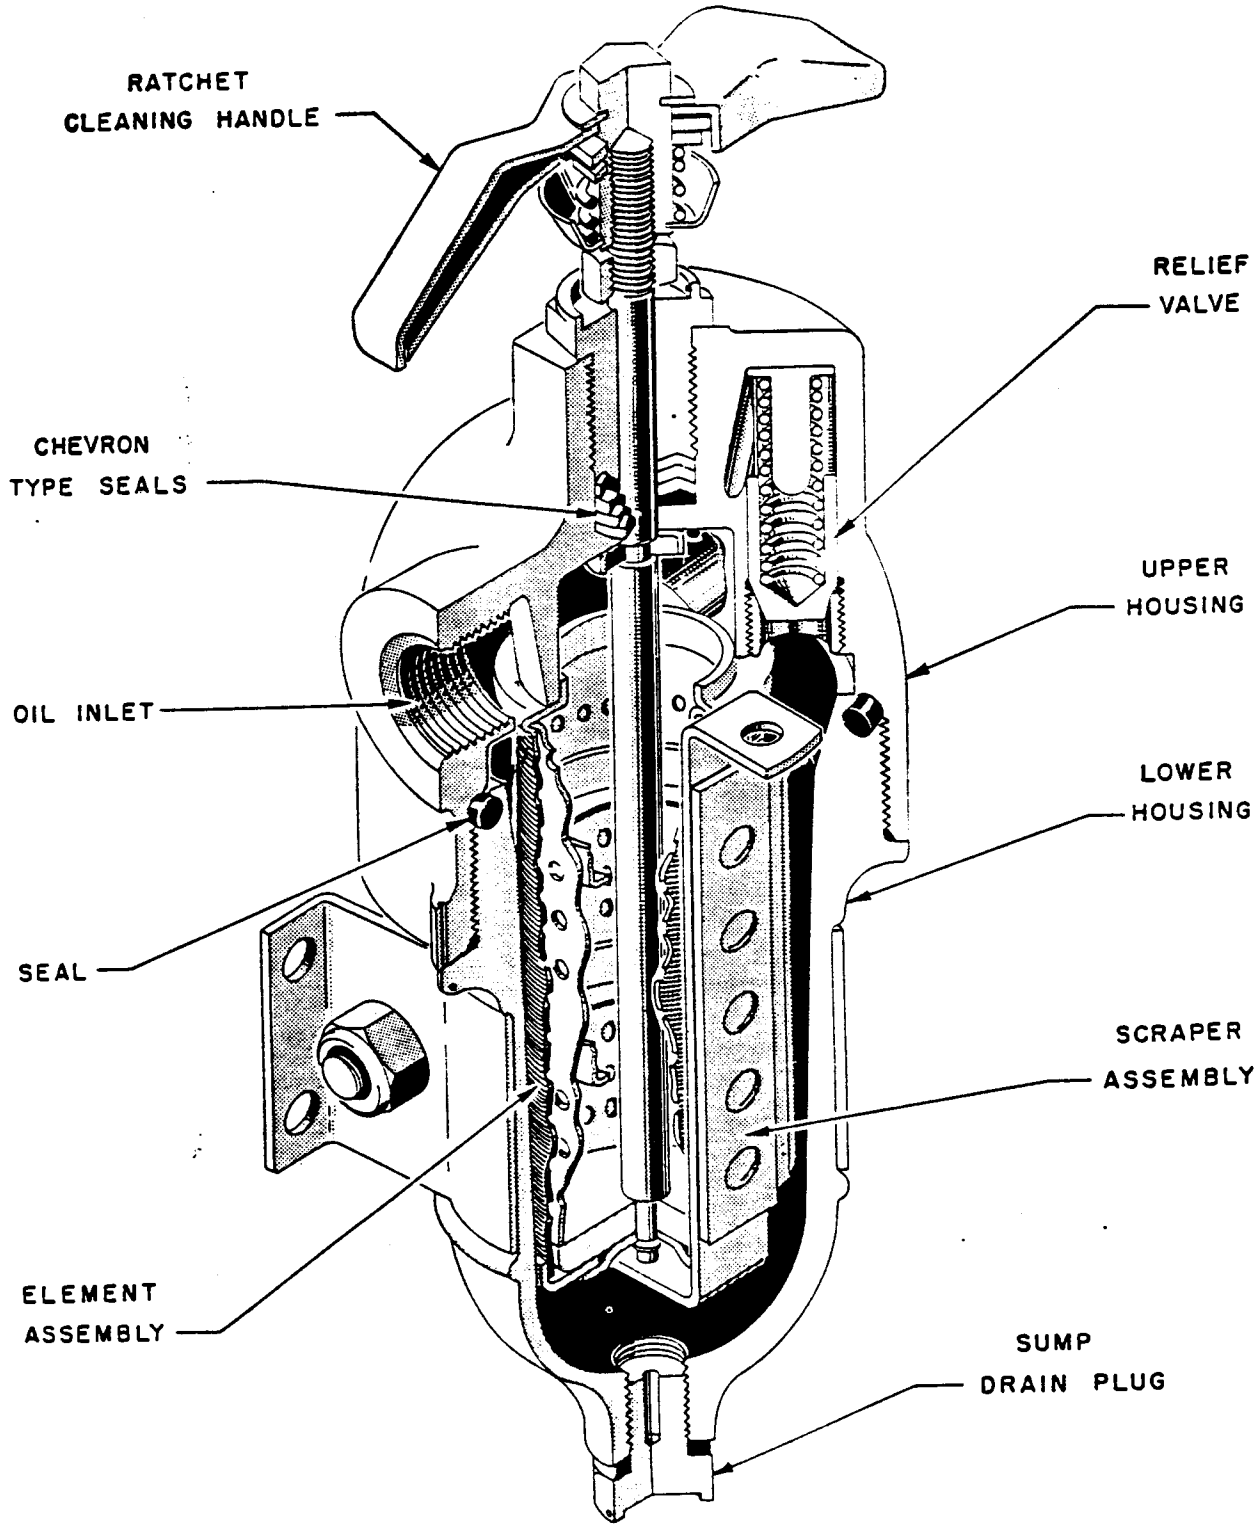

Figure 10. Turbosupercharger Oil Filters
(1) Oil, Specification No. AN-VV-O-446a, from the main engine oil tanks is used to lubricate the turbosuperchargers.
(2) Four Purolator oil filters for the turbosuperchargers are located in each main landing gear wheel well. These oil filters must be turned on each daily inspection. See figure 10.